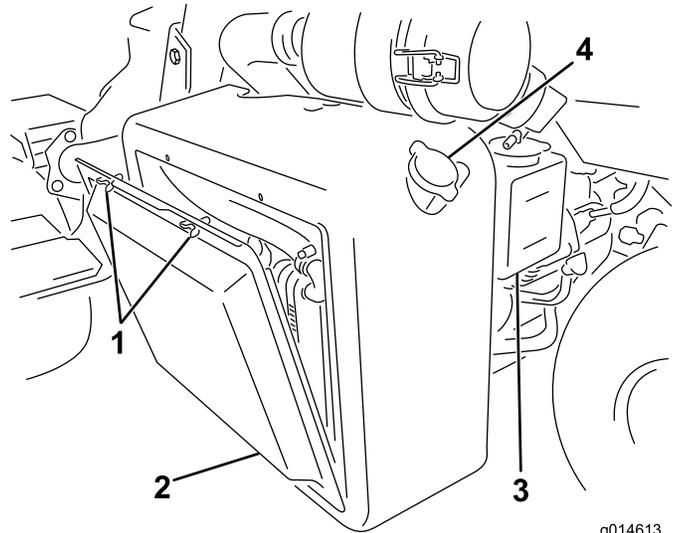

Figure 54
1. Remove the radiator screen (Figure 54).